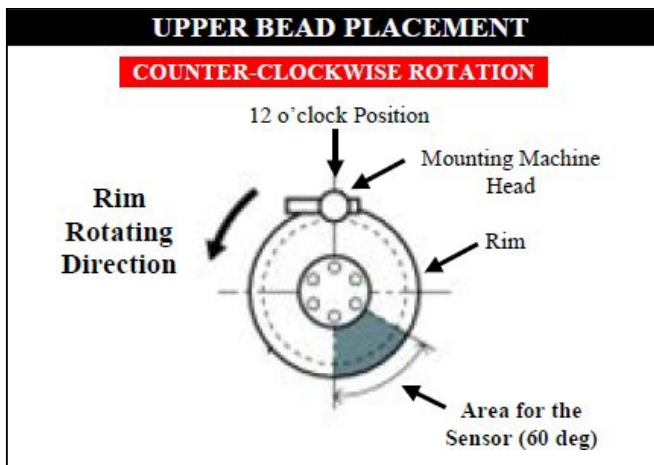

Figure 6b
- d. Re-position the wheel on the mounting machine with the sensor at ~ 5 o'clock position. See Figure 6b (Shaded Area).